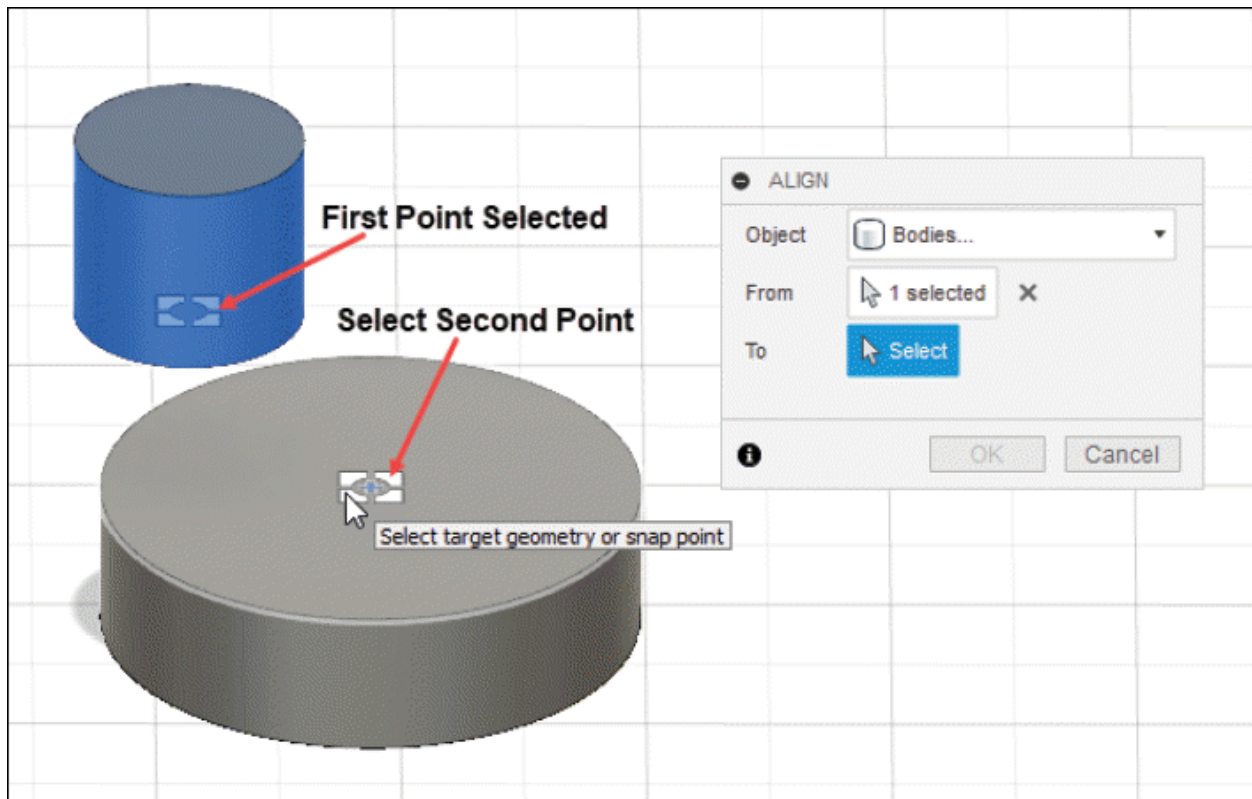

Figure-60. Selection of points to align body
- Click on **Select** button of **To** section of **ALIGN** dialog box and select point on the second body to which the body to be aligned; refer to Figure-60.